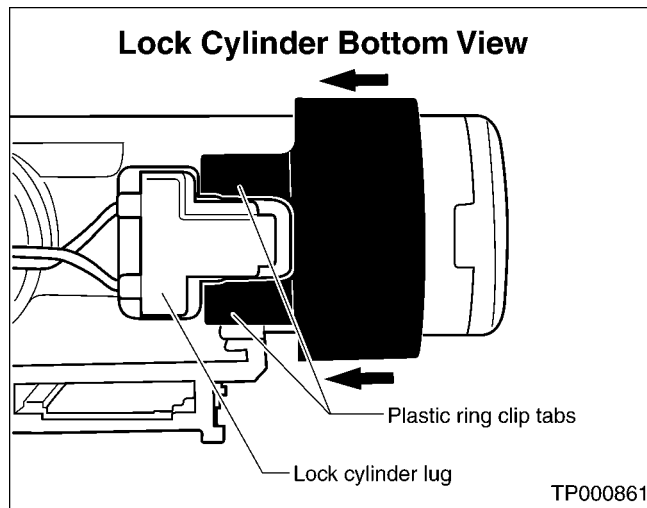

Figure 8
**IMPORTANT:** Make sure the plastic ring clip tabs are fully seated onto the lock cylinder lug (see Figure 8).